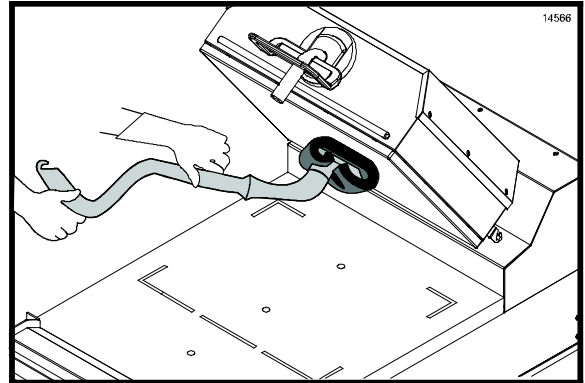

Figure 28
19. Scrub the platen surfaces. (See Figure 28.)